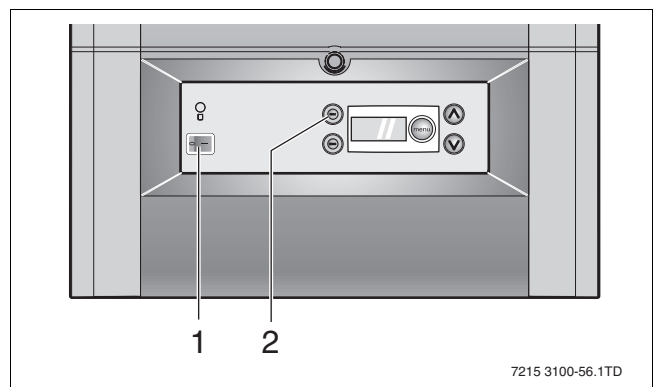

Fig. 56 DBA front
- Take the boiler out of service by pressing the mains switch (→ fig. 56, item 1) to "0".
- Set the mains switch (→ fig. 56, item 1) to "1".
- Create a heat demand by pressing the service button  (→ fig. 56, item 2), until an open-ended spanner  appears in the top left hand corner of the display.
- Turn mains power switch to "0" (→ fig. 56, item 1).
- Set the mains switch to "1" (→ fig. 56, item 1).
- Set mains power switch to "0" (→ fig. 56, item 1).
- Turn the mains power switch to "1" (→ fig. 56, item 1).
- Turn the mains power switch to "0" (→ fig. 56, item 1).
- Set mains power switch to "1" (\rightarrow fig. 56, item 1).
- Set the mains power switch to "0" (\rightarrow fig. 56, item 1).
- Set the mains power switch to "1" (\rightarrow fig. 56, item 1).